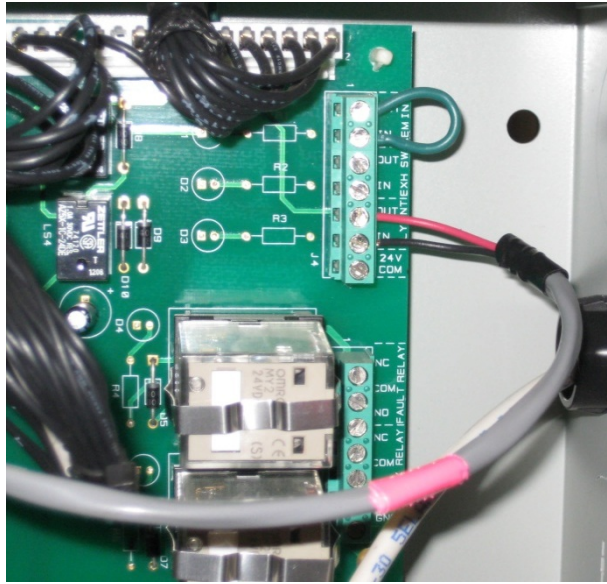

Figure 2-14: Sequencing Valve Installed
2. The boiler's shell harness has one unused cable. One end of this cable is connected to the DELAYED INTERLOCK IN terminals in the I/O board (see Figure 2-14) while the other end contains a Molex connector with a jumper wire inserted in it (this jumper wire allows units that do not have a sequencing valve to operate normally). Find the free end of this cable inside the unit's enclosure.